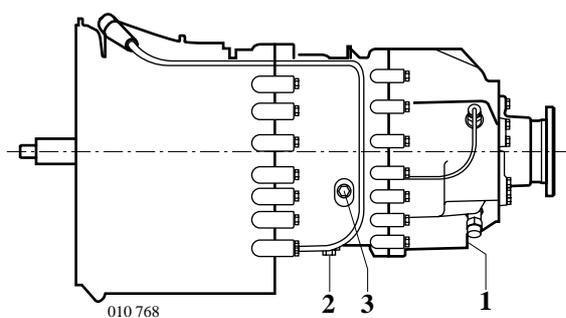

Fig. 1.1 Version: solo transmission
- ⇒ Remove oil drain plugs from transmission (Figs. 1.1 and 1.2, items 1 and 2) and collect transmission oil in a suitable container. Dispose of in an environmentally-friendly manner.
Key to Figs. 1.1 and 1.2
(Figs. 1.1 and 1.2, item 3).